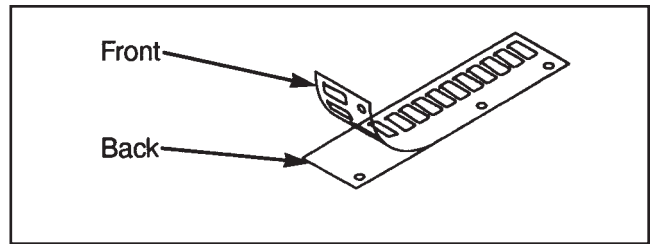

Figure 23
(see steps 9A - 9H, Figures 23 and 24).
- B.** Place weight plate decals on weight plates according to steps listed below and Figures 23 and 24.